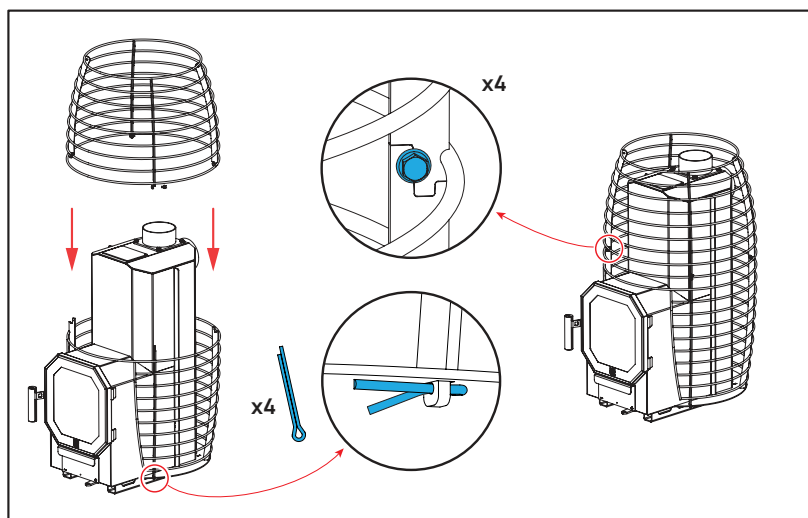

Figure 13. Splitting HIVE Flow stone grid.
- HIVE Flow stone grate can be split. To insert and remove the lower stones, the upper part of the grate should be removed and raised as far as the chimney connection allows (**Figure 13**).